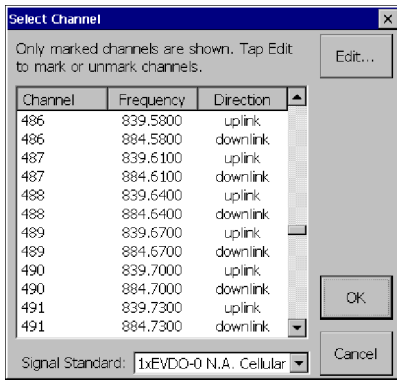

Figure 3-53: Displaying a list of the available channels
- b. Specify the channel number. To display a list of all the available channels for the selected standard, tap **List**. See Figure 3-53.